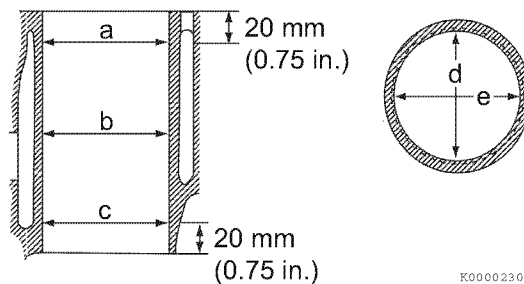

Figure 6-65
- Take measurements at three places (**Figure 6-65**) (a, b, c), and in two directions (d and e) in each cylinder.